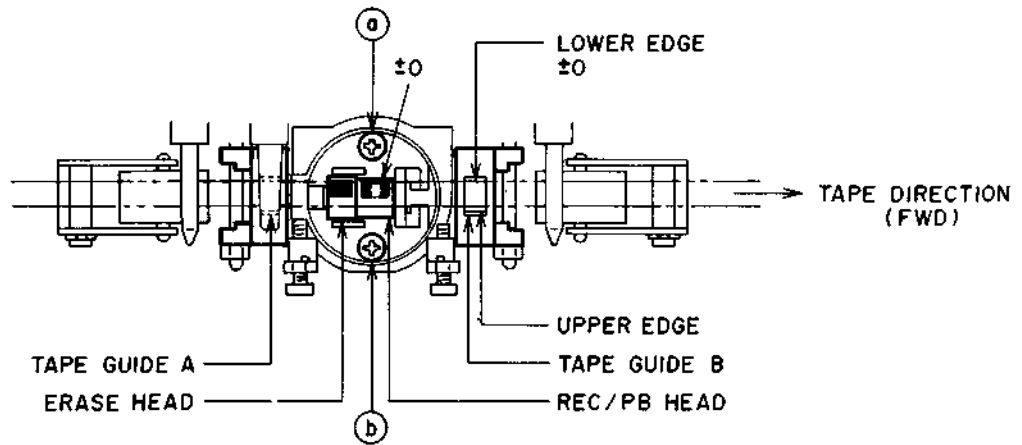

Fig. 6-1
(Refer to Figs. 6-1, 6-2, & 6-4)
- 5) When the head replacement is necessary, loosen only the screws (a) & (b) in Fig. 6-1 for easy replacement.